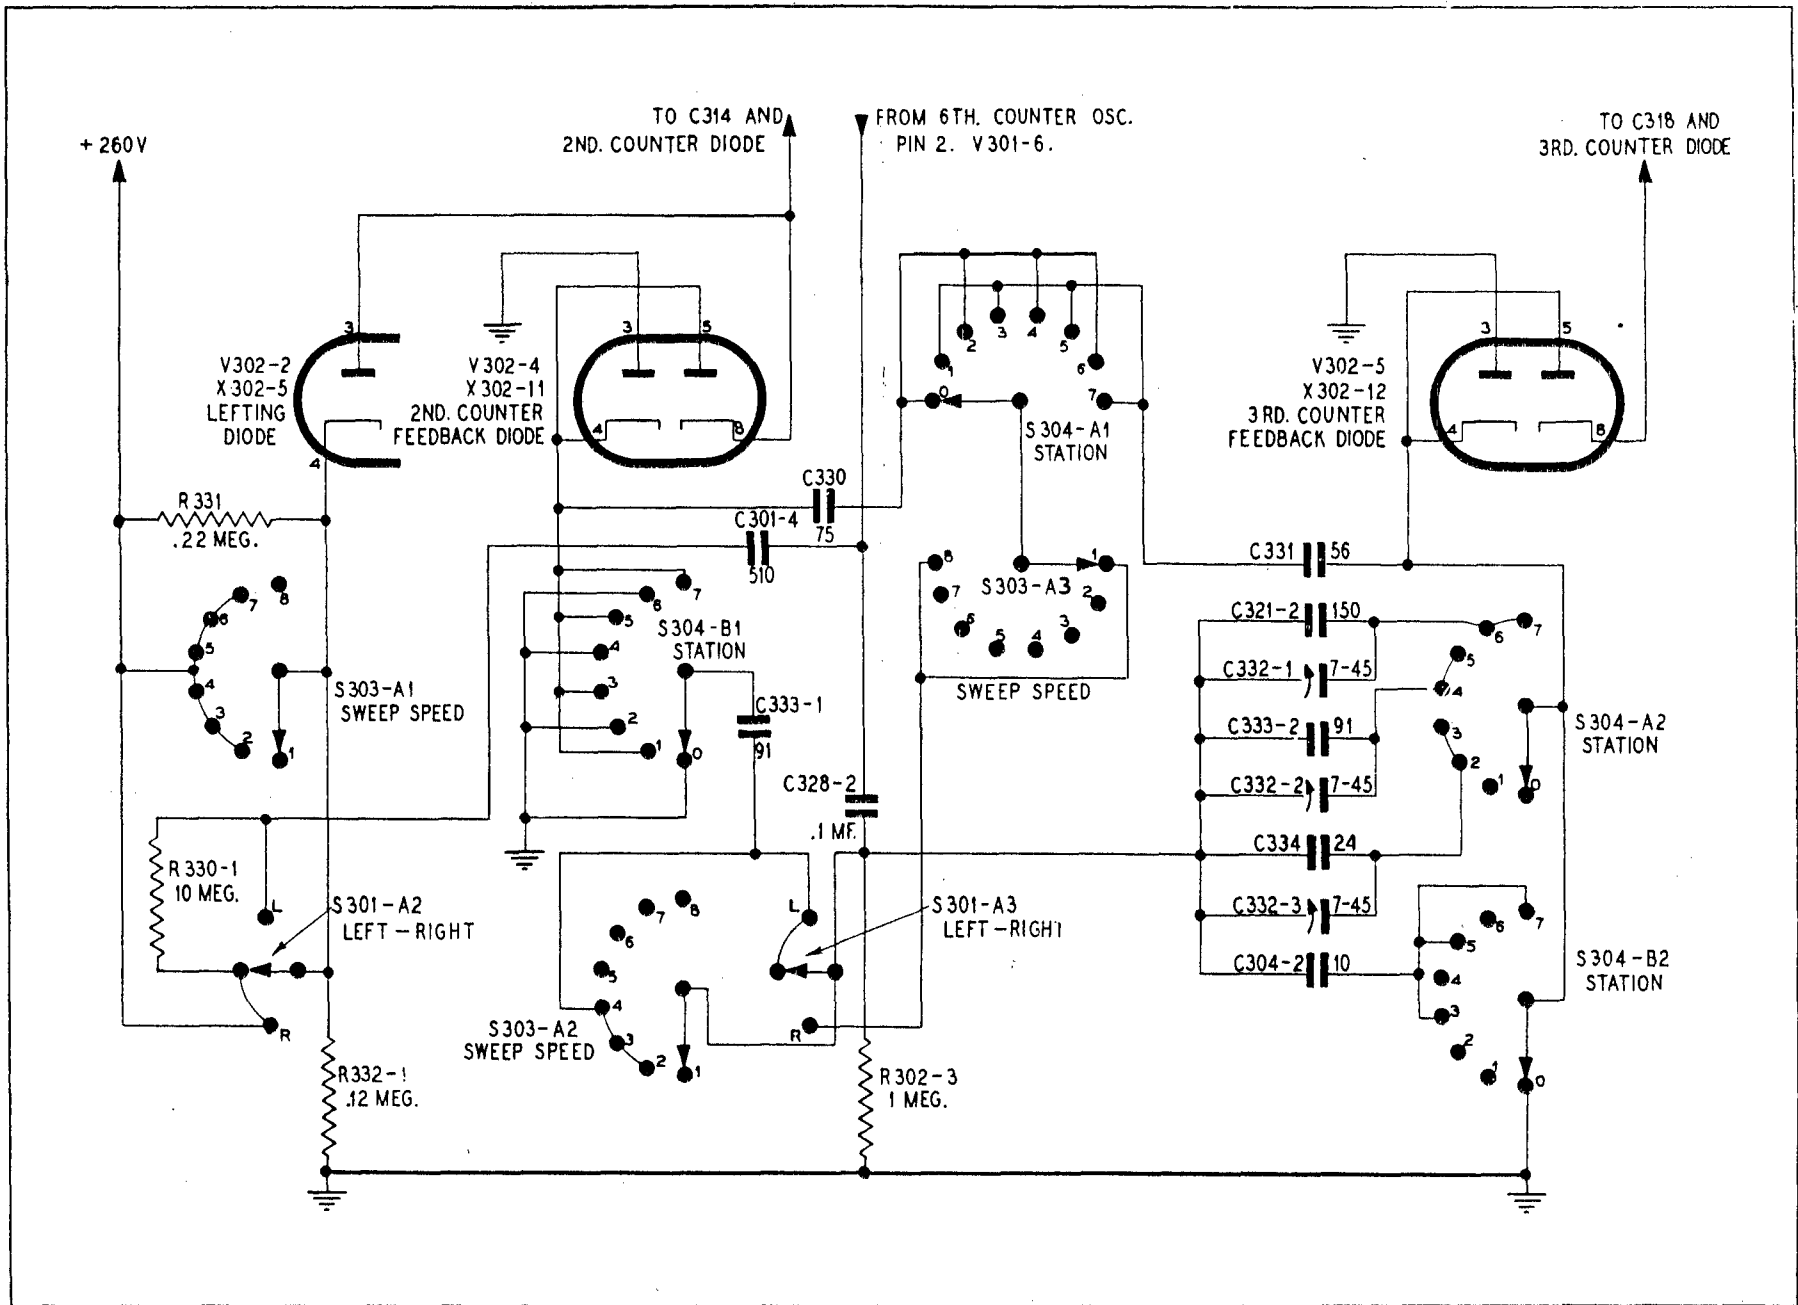

Figure 4-45. "STATION" Selector and Left-Right Circuit
(3) STATION SELECTOR AND LEFT-RIGHT CIRCUITS. (See figure 4-45.)—The station-selector circuit provides the necessary means for synchronizing the repetition rate of the traces with any one of the 16 dif-
The lefting diode (V-302-2A) performs an interesting function in the operation of the left-right circuit. When the "LEFT-RIGHT" control is at either neutral or "RIGHT" position, a positive potential of 260 volts exists at the cathode of V-302-2A. (See fig. 4-45.) Under this condition no conduction can take place within the tube; the diode, therefore, cannot act as a discharge path for capacitor C-314 and, as a result, does not affect the normal action of the second counter. With the "LEFT-RIGHT" control at "LEFT" position, a voltage-divider system consisting of resistors R-331 and R-332-1 places a positive potential of approximately 92 volts on the cathode. This cathode voltage is also sufficient to insure against conduction within the tube, except when the tube is triggered by an output pulse from the sixth counter. The negative excursion of the output pulse from the sixth counter is of greater amplitude than the positive voltage existing at the cathode of V-302-2A; therefore, it drives the cathode negative with respect to the plate, causes conduction within the tube, and discharges capacitor C-314 to zero level. With the "LEFT-RIGHT" control at neutral position, a 10-megohm resistor (R-330-1) provides the necessary discharge path for capacitor C-301-4, thus preventing any undesirable effects by this capacitor on the normal operation of associated circuits.